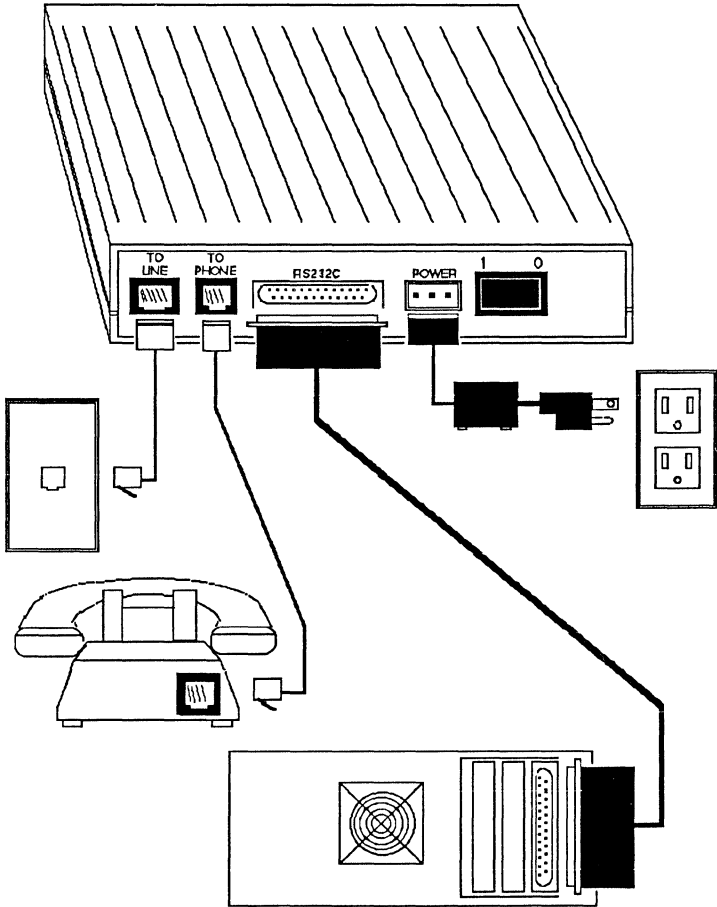

Figure 1. T2500 Cable Connections
-  Make sure that the power switch (1/0) on the rear of the modem is turned off (0). Connect the power cord provided with your modem to the POWER connector on the back of the modem. The beveled edge of the plug should be facing up so that it mates with the retainer clip on the connector. Plug the other end of the AC power cord into a grounded AC wall outlet (refer to Figure 1, T2500 Cable Connections).